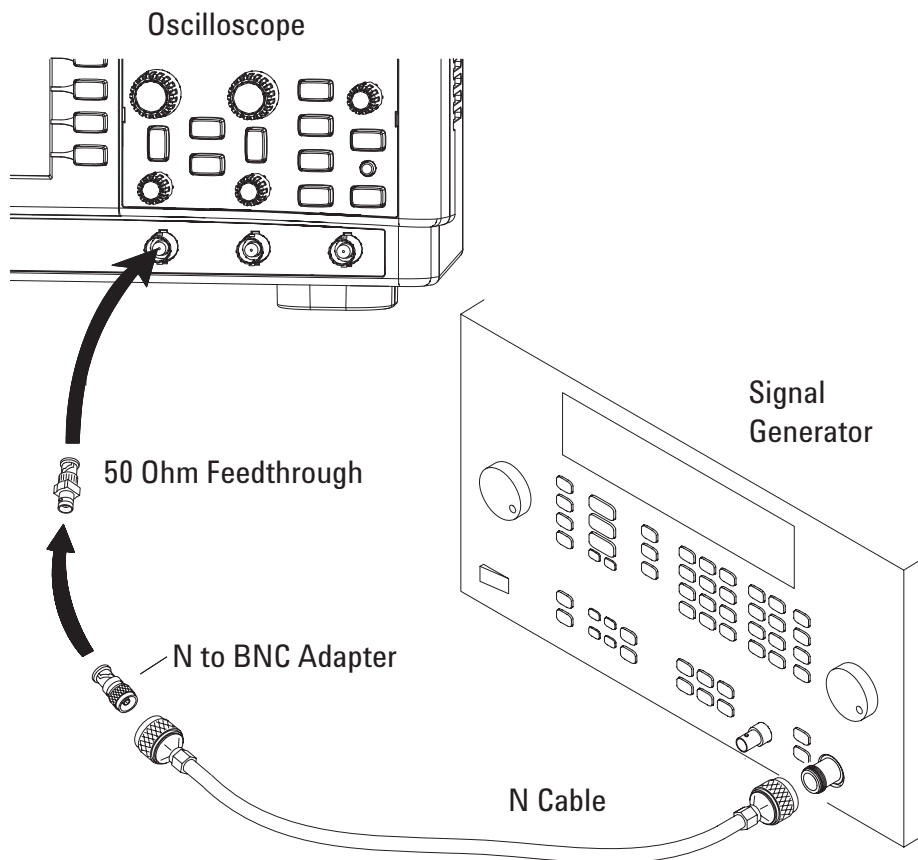

Figure 4 Setting Up Equipment for Internal Trigger Sensitivity Test
- 3 Connect the equipment (see **Figure 4**).